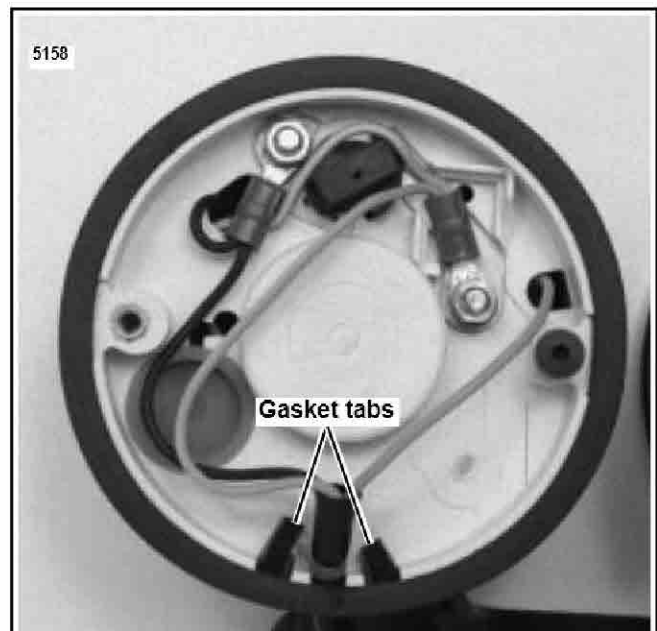

Figure 6. Rear Cover Removed from Tachometer
- See Figure 6. Place rear gasket in position and align gasket tabs. Work gasket into space between gauge and bracket by pushing gauge against one side of bracket while pushing gasket into position at the opposite side.